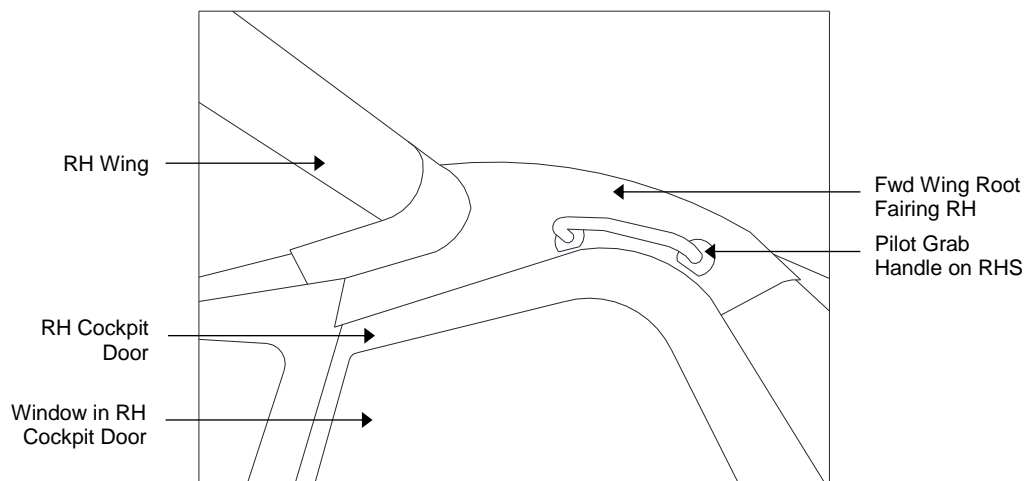

Figure 19: RHS Fwd Ring Root Fairing and Pilot Grab Handle locations
- 1) Remove the Pilot Grab Handle (GA8-531022-013) on the RHS of the aircraft (See Figure 19).
- 2) Remove the Fwd Wing Root Fairing RH (GA8-571019-014) (See Figure 19).